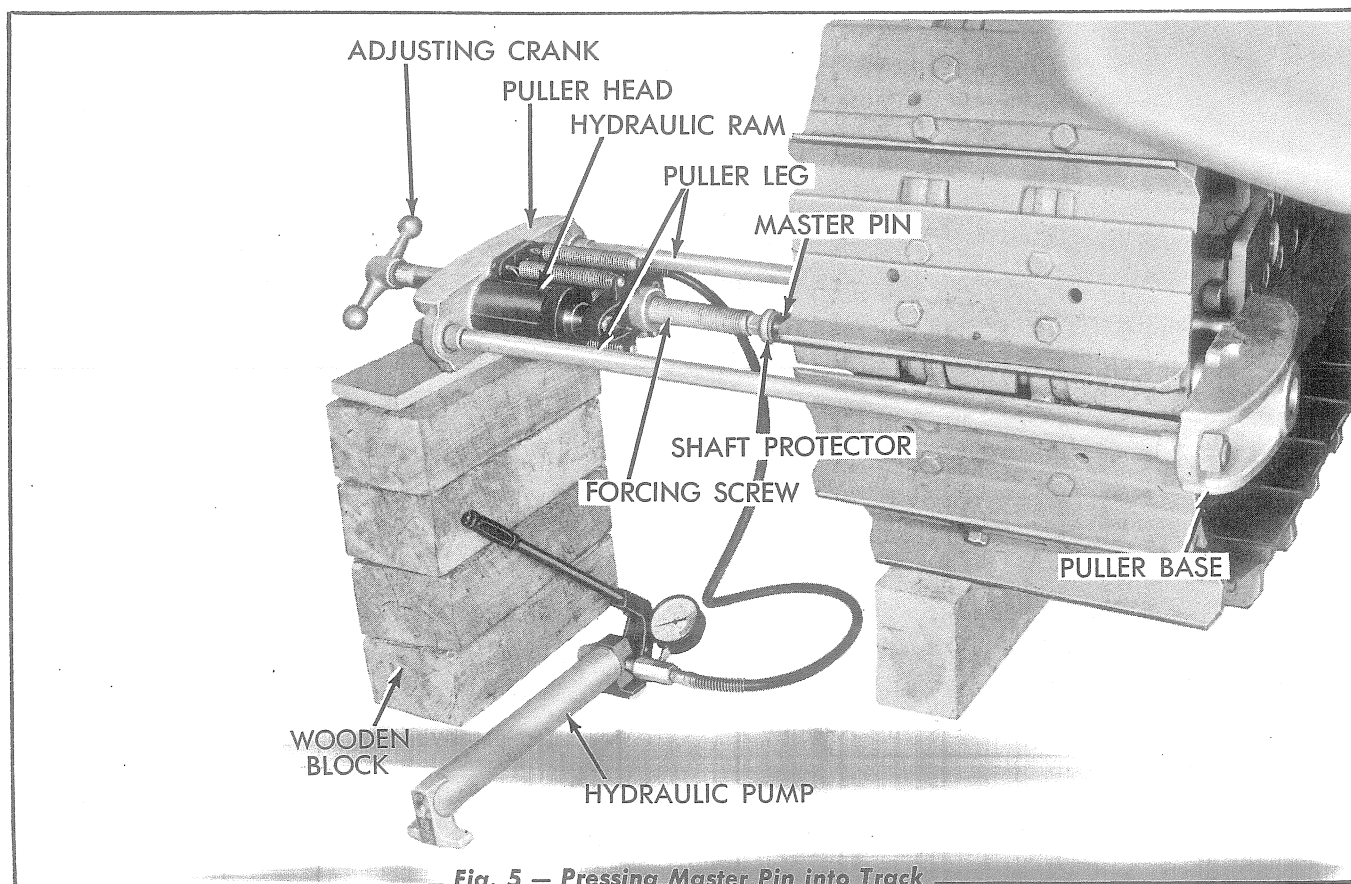

Fig. 5 — Pressing Master Pin into Track
- b. Refer to Fig. 5 and install the puller head with one leg through the track idler and one leg to the outside of the track.
- e. Lubricate the track master pin and start it into position in the side bar. Using the adjusting crank, turn the forcing screw in until the shaft protector contacts the end of the master pin as shown in Fig. 5. Support the outer end of the press assembly on blocks as shown.